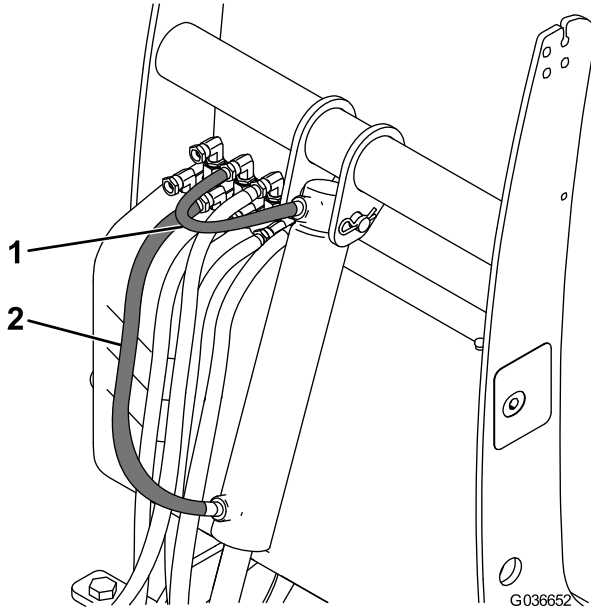

Figure 9
(Figure 9). Turn the fitting until it is finger tight, then turn it another 1/4 to 1/2 turn.
10. Install the 39 cm (15-1/2 inch) hose to the Aux port on the hydraulic shelf (Figure 9). Turn the fitting until it is finger tight, then turn it another 1/4 to 1/2 turn.